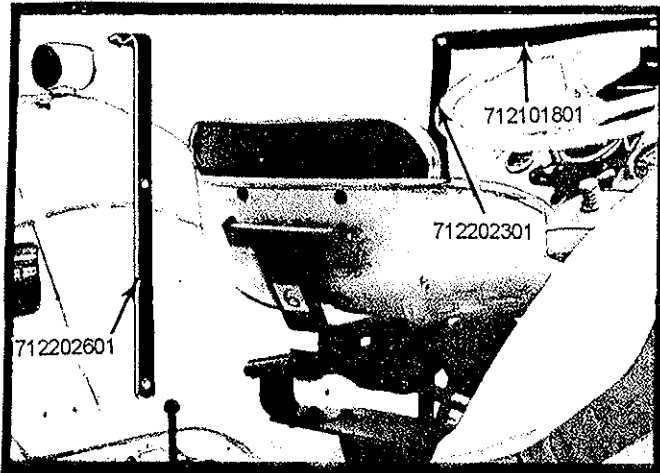

Figure 3
6. Place #712202601 latch up under bottom of door. Mark through holes in latch and drill 2 - 11/32" holes in fender. Bolt latch to fender using 5/16" x 1" bolts and nuts. See Figure 3.